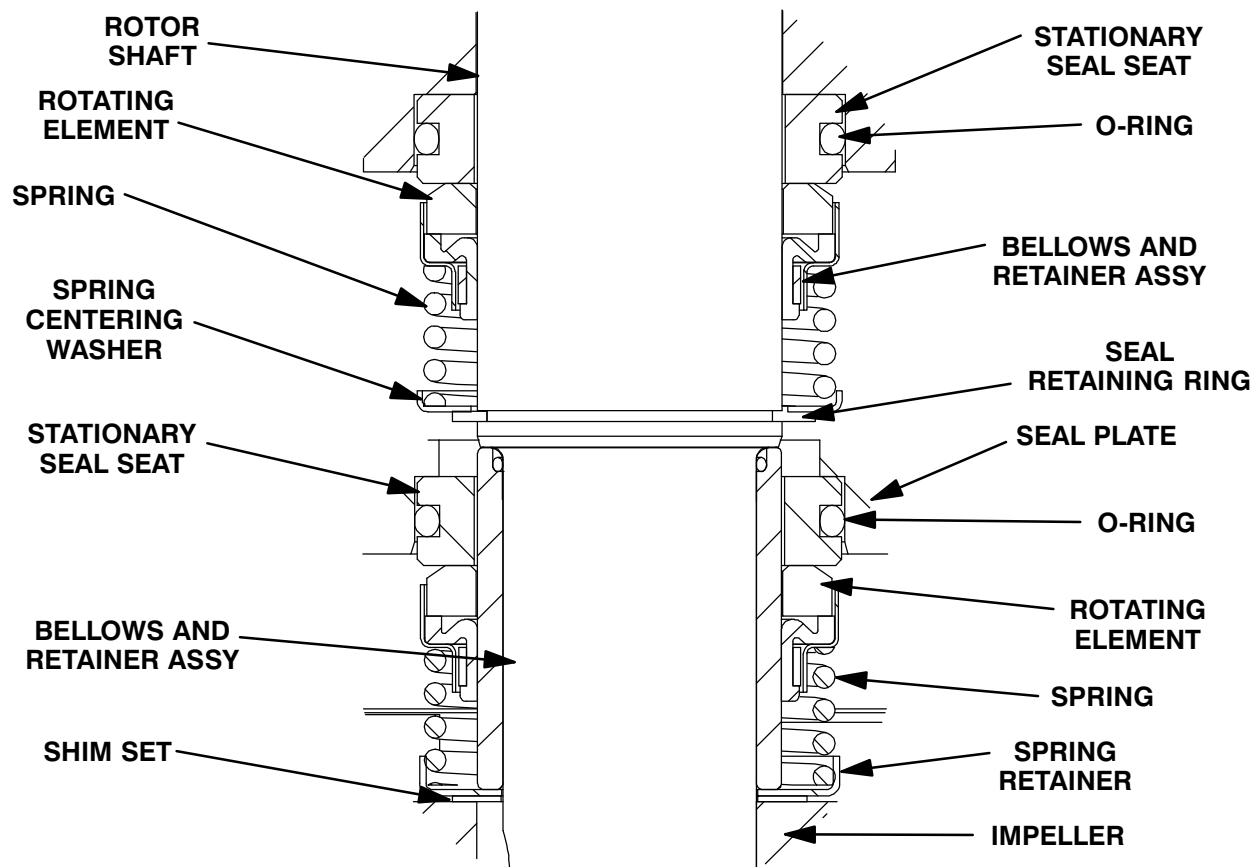

Figure E-3. Upper And Lower Seal Assemblies
Install the shaft seals as illustrated in Figure E-3.
Slide the seal spring over the shaft and bellows retainer and install the spring centering washer. Install the seal retaining ring (10). See Figure E-3 for the proper order of seal assembly.
Install the seal spring over the bellows retainer and install the spring retainer (21). See Figure E-3 for proper order of seal assembly.